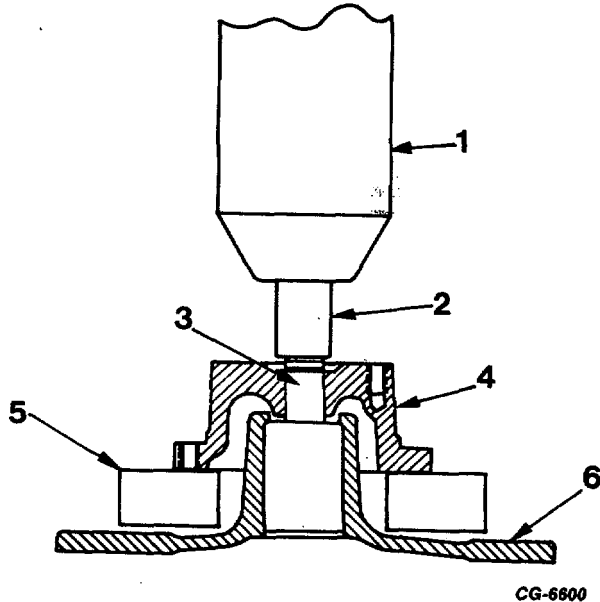

Fig. 138 Fan Mounting Drive Hub Removal
3. Using remover adapter tool press hub from shaft (Figure 138).